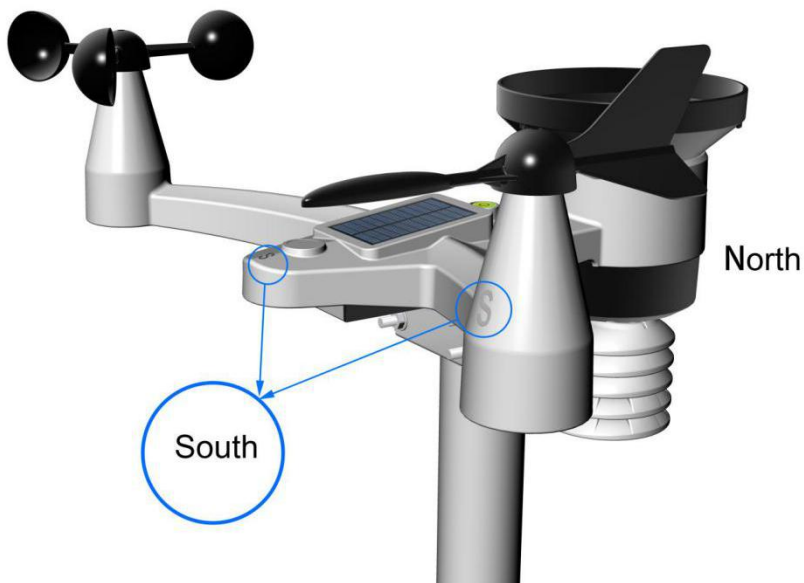

Figure 6
Step 1: There is a “S” indicator on the wind vane that indicates South, as shown in Figure 6. Check the wind directions with Compass and Align this “S” marker in the direction of south.